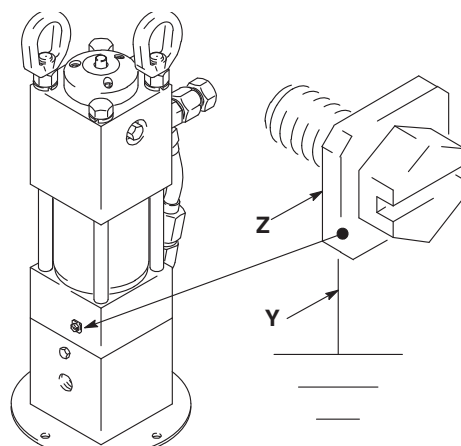

FIG. 1
Pump: Use a ground wire and clamp. Remove the ground screw (Z) and insert through the eye of the ring terminal at end of ground wire (Y). Fasten the ground screw back onto the pump and tighten securely. Connect the other end of the ground wire to a true earth ground. (FIG. 1)